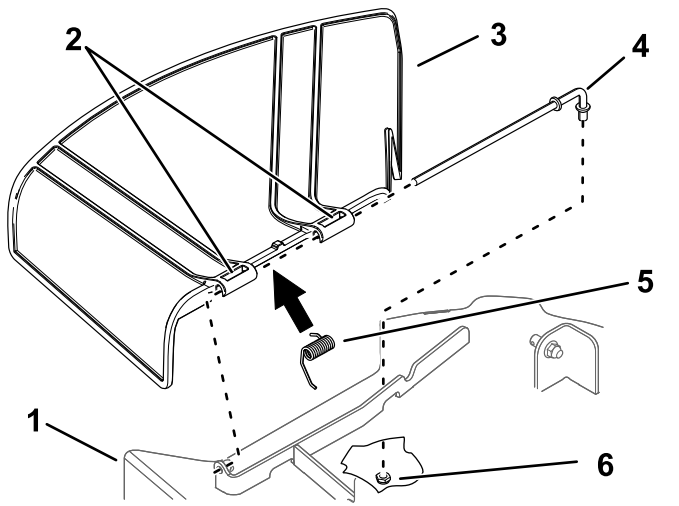

Figure 62
- Remove the nut (3/8 inch) from the rod under the mower (Figure 62).
2. Slide the rod out of the short stand-off, spring, and grass deflector (Figure 62).
4. Install the new grass deflector (Figure 62).
7. Slide the rod through the second grass-deflector bracket (Figure 62).
9. Secure the rear end of the rod into the mower with a nut (3/8 inch) as shown in Figure 62.